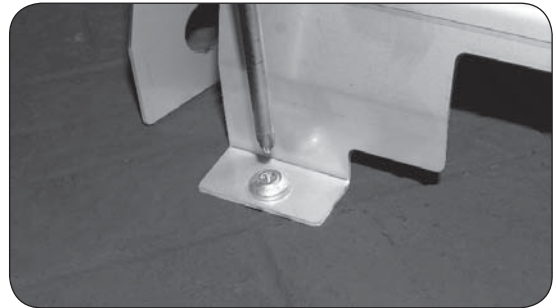

Fig. 10-2 Fastening hammer screws
3. Use a power drill to complete the fastening of the screws (Fig. 10-2).